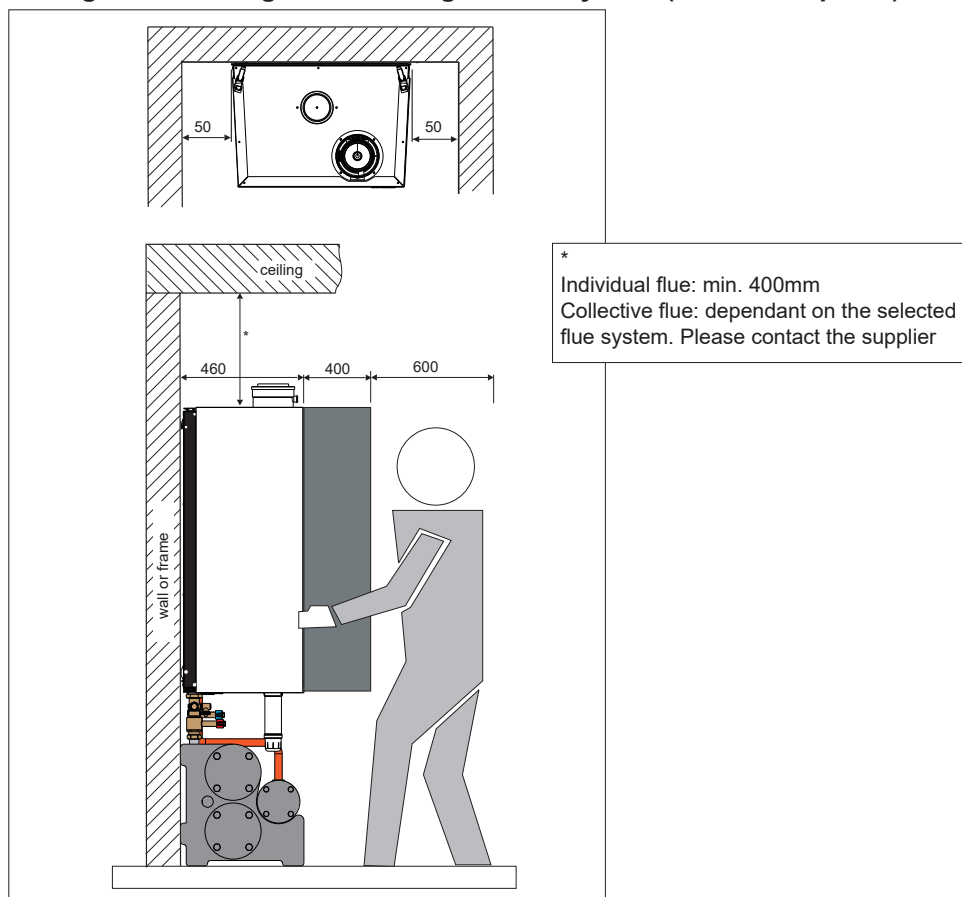

Figure 5.a
**Pay attention to the minimum distance required between the boilers, walls and ceiling for installing and removing the housing (refer to fig. 5.a.) for commissioning and servicing and installing the flue system (refer to chapter 7).**